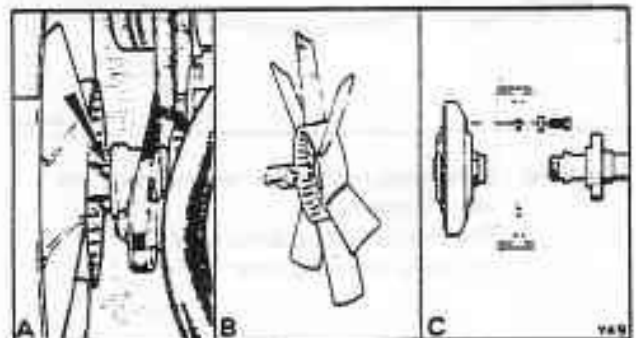

Fig. L2-4 Fan assembly retention
9. [Type A (see page L1-2)] Remove the four nuts securing the fan assembly to the coolant pump spigot (see fig. L2-4, A). Collect the washers.
(Type B) Remove the setscrew and dog location washer securing the fan assembly to the coolant pump spindle (see fig. L2-4, B).
(Type C) Unscrew the Eaton type fan coupling from the spindle, noting that it has a left-hand thread (see fig. L2-4, C).
5. (Type A) Remove the four nuts securing the fan assembly to the coolant pump spigot (see fig. L2-4.A). Collect the washers.
- (Type B) Remove the setscrew and dog location washer securing the fan assembly to the coolant pump spindle (see fig. L2-4.B).